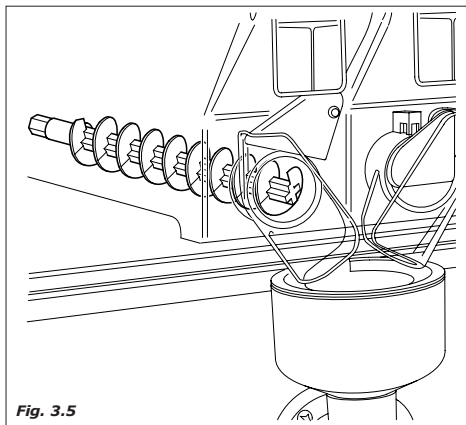

Fig. 3.5
- The instant product geared motor activates the helicoidal screw conveyor so as to dispense the quantity of product programmed into the mixer (in some versions more than one product can be conveyed into the same mixer) (Fig.3.5)